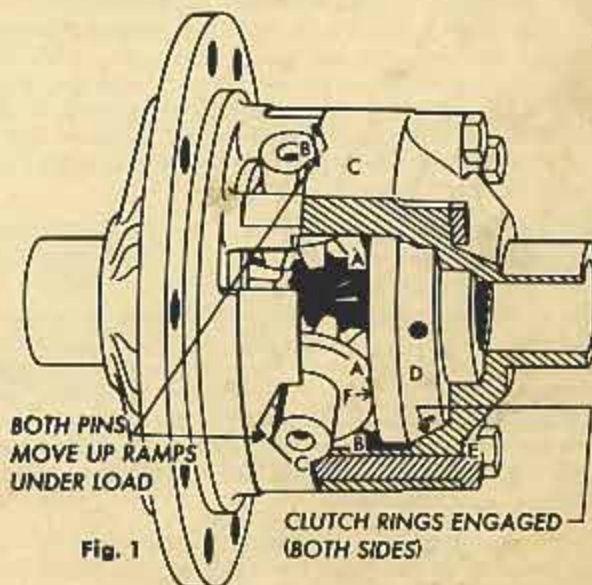

Fig. 1
1. A two-piece case with each piece having two V-shaped ramps or cam surfaces opposite each other. See "C," figure 1.
In straight-ahead driving, the driving force moves the cross pins "B," figure 1, up the ramp of the cam